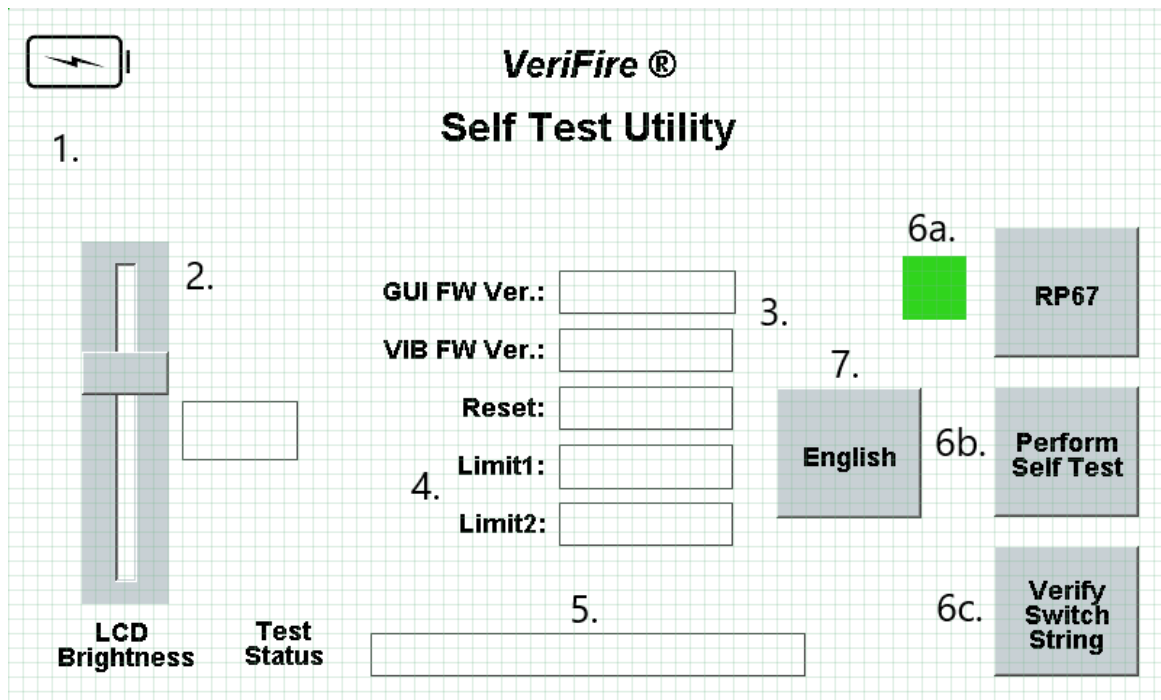

Figure 12 - Home/Self-Test Screen
8. After disconnecting the battery charger, the VeriFire® Panel goes through a self-test and displays the VeriFire® home screen shown in Figure 12. A full description of the VeriFire® home screen is given in the Self-Test Section.
- 3) Two splash screens are initially displayed as shown in Figures 10 and 11. It takes about 6 seconds for the unit to boot up and present the VeriFire self-test screen shown in Figure 12.
Shown in the self-test screen in Figure 12 are: